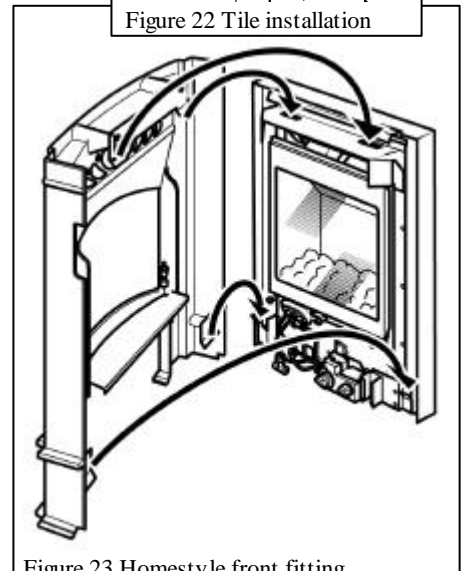

Figure 23 Homestyle front fitting.
- The front has a location plate at the rear of the mantle shelf and a location bracket near the bottom rear of each vertical column. These locate into the convection box. Carefully lift the cast front into position squarely with the convection box. Holding the cast front a little above the top surface of the convection box, locate the two lower location brackets into the lower case brackets and the upper location plate into the two slots in the upper case support. Gently lower the cast front making sure that it causes no damage to the floor. The cast front should sit squarely on the floor and be evenly spaced each side of the black appliance case surround. See figure 23.